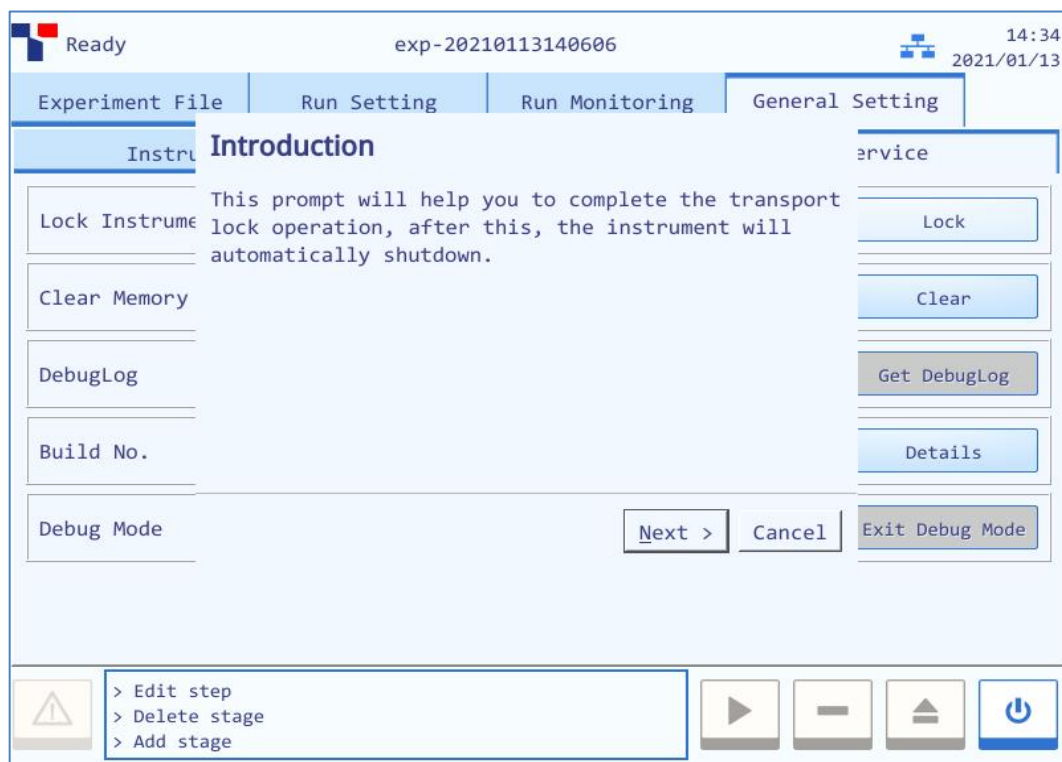

Figure F-4. Transport Locking Operation (2)
**3rd Step:** Open the **General Setting tab** > **Service sub-tab** and press < **Lock** > on the instrument system software, a prompt will pop up to help user complete the transport lock operation, as shown in figure F-4.